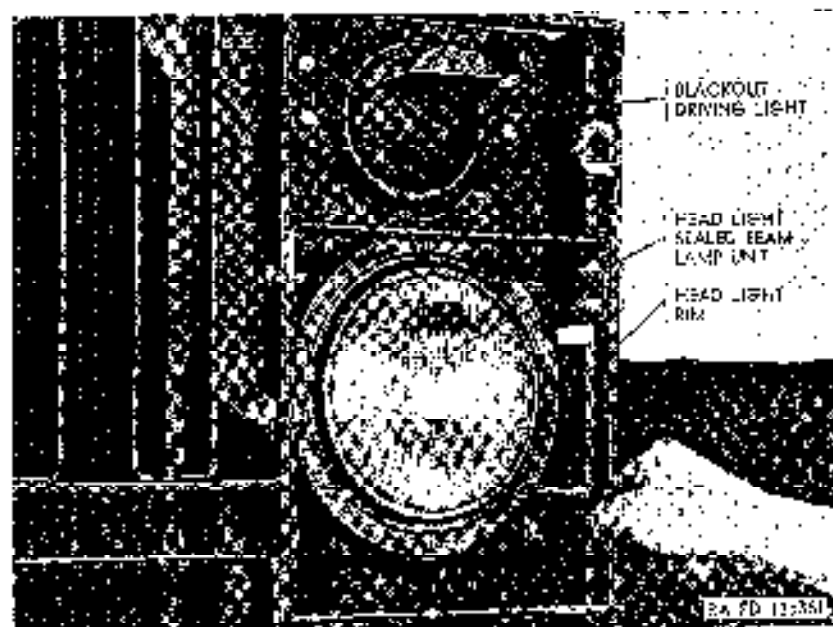

Figure 182. Reinstalling headlights rim.
- (3) Pull sealed-beam lamp unit from headlight body and disconnect cables at waterproof connectors (fig. 182).
- (1) Connect three cables at waterproof connectors (fig. 182) and position lamp unit in headlight body.
- (3) Position headlight rim (fig. 182), install three screws, and tighten.
c. Adjustment. Adjustment of the headlights is readily accomplished with a headlight aiming chart. Cover one headlight while adjusting the other. Remove headlight rim (fig. 182). Turn vertical